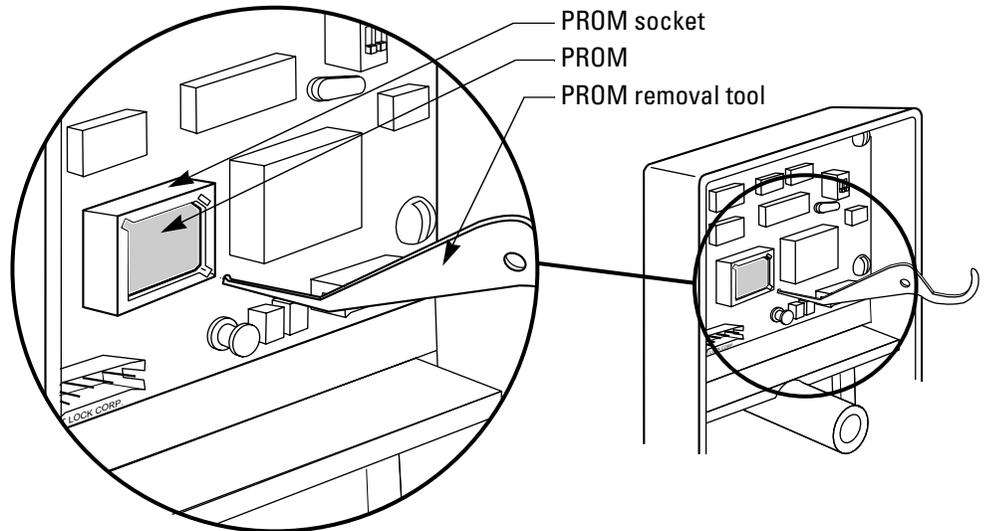
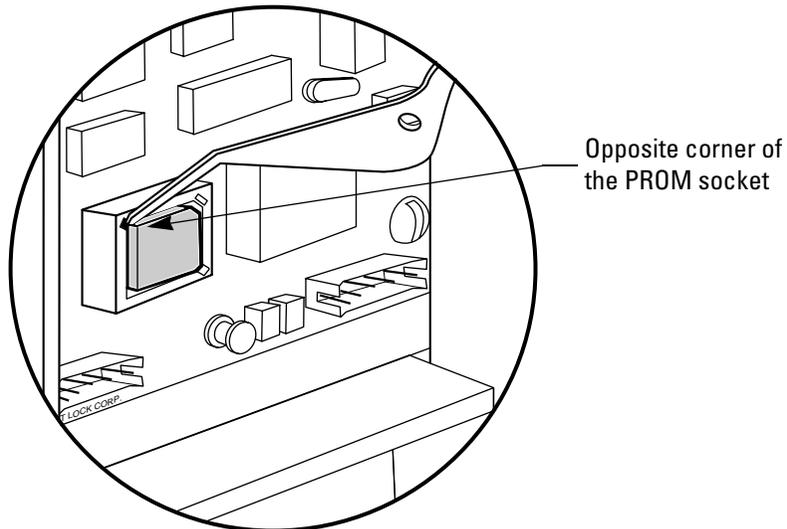

Figure 2.20 Prying one corner of the PROM part way out of the socket
Figure 2.21 Prying the opposite corner of the PROM
Refer to Figure 2.20 and Figure 2.21 and follow the steps below.
3. Insert the hook of the PROM removal tool in one of the notched corners of the PROM socket, as shown in Figure 2.20. Use the PROM removal tool to pry the corner of the PROM part way out of the socket.
4. Insert the PROM tool in the opposite notched corner. Pry the PROM the rest of the way out of the socket, as shown in Figure 2.21.